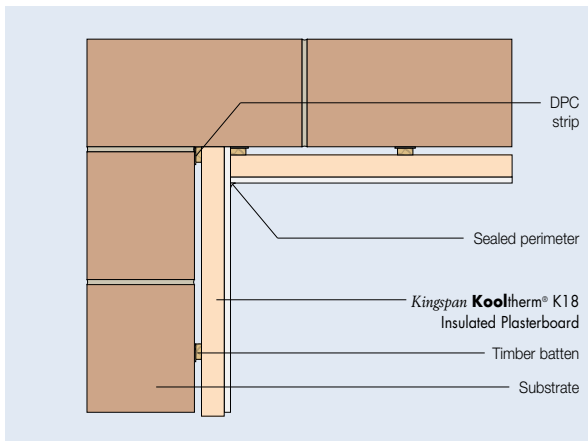

Figure 7 – Internal Corner Detail
- For external corners (including reveals), the lining should run past the corner and the insulating backing of **Kingspan Kooltherm® K18 Insulated Plasterboard** should be cut back to create a junction (see Figures 7 & 9). Sheets should be cut and rebated to allow a plasterboard / plasterboard joint at the angle (see Figures 7 & 8).
- Ensure sheets are lightly butted and air gaps minimised to reduce the risk of cold bridging (see Figures 7 & 9). Any air gaps should be sealed with flexible sealant or equivalent, or a combination of flexible polyurethane foam and flexible sealant or equivalent.